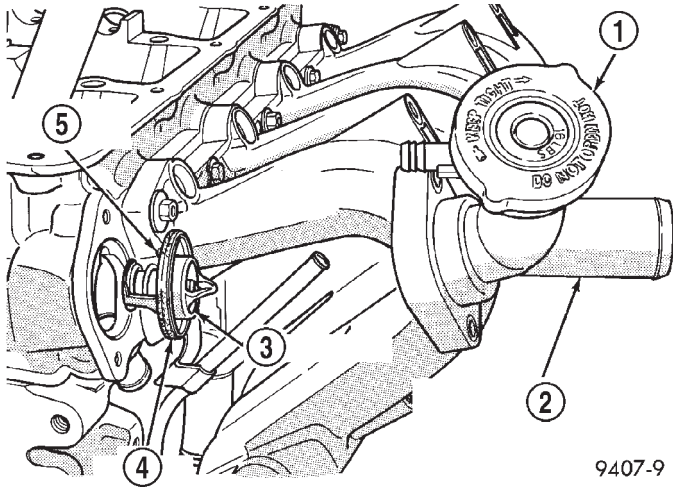

Fig. 22 Thermostat/Engine Outlet Connector
- (3) Remove thermostat/engine outlet connector bolts (Fig. 22).
- (4) Remove thermostat and O-ring assembly.